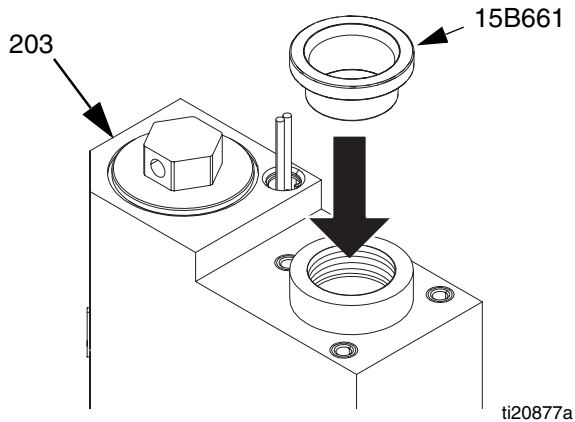

FIG. 32
- a. Install new piston u-cup (225) onto piston rod (223) with the lips facing the rod.
- b. Install piston bearing (226) onto piston rod (223) with grooved end towards the center of the piston rod.
- c. Install piston valve (222) onto piston rod (223). Torque to 24-30 ft-lb (33-41 N•m).
2. To protect the seals from the sharp threads, place seal installation tool 15B661 into the throat bore. See FIG. 32.
8. Install retaining nut (235). See FIG. 32.